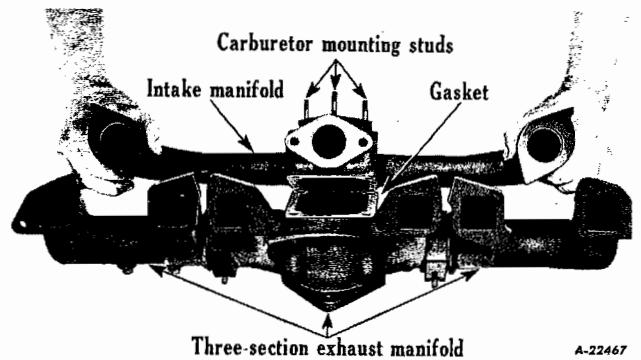

Fig. 29
3. The intake manifold is of one piece construction. The exhaust manifold is of three piece construction (Fig 29).